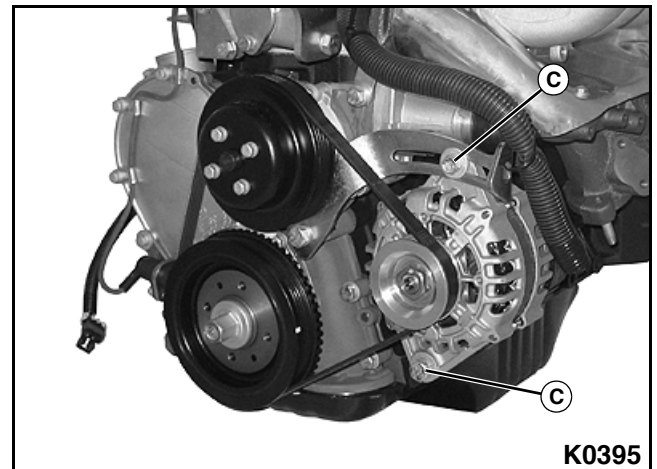

Figure 5-27
7. Loosen the two alternator mounting bolts (C). **See Figure 5-27.**